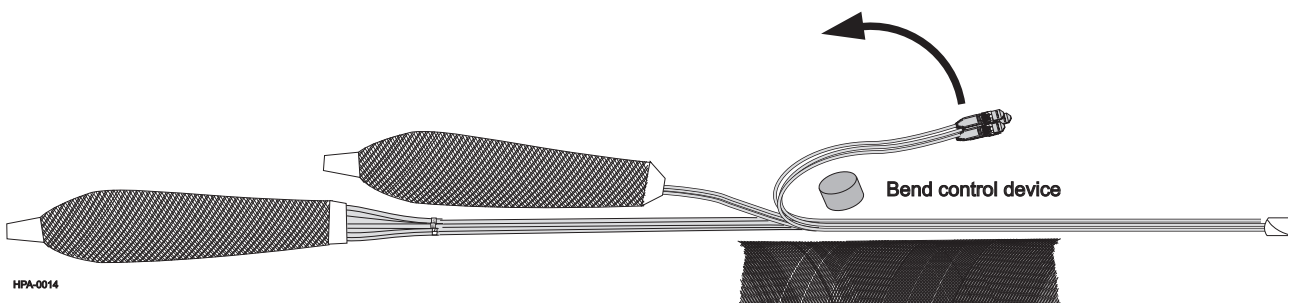

Figure 10 — Mesh Bag Removal
Step 8: Starting with the mesh bag closest to the furcation body, remove the tape and mesh to expose the first set of three folded legs (Figure 10). If applicable, unfold the legs from around the bend control device.